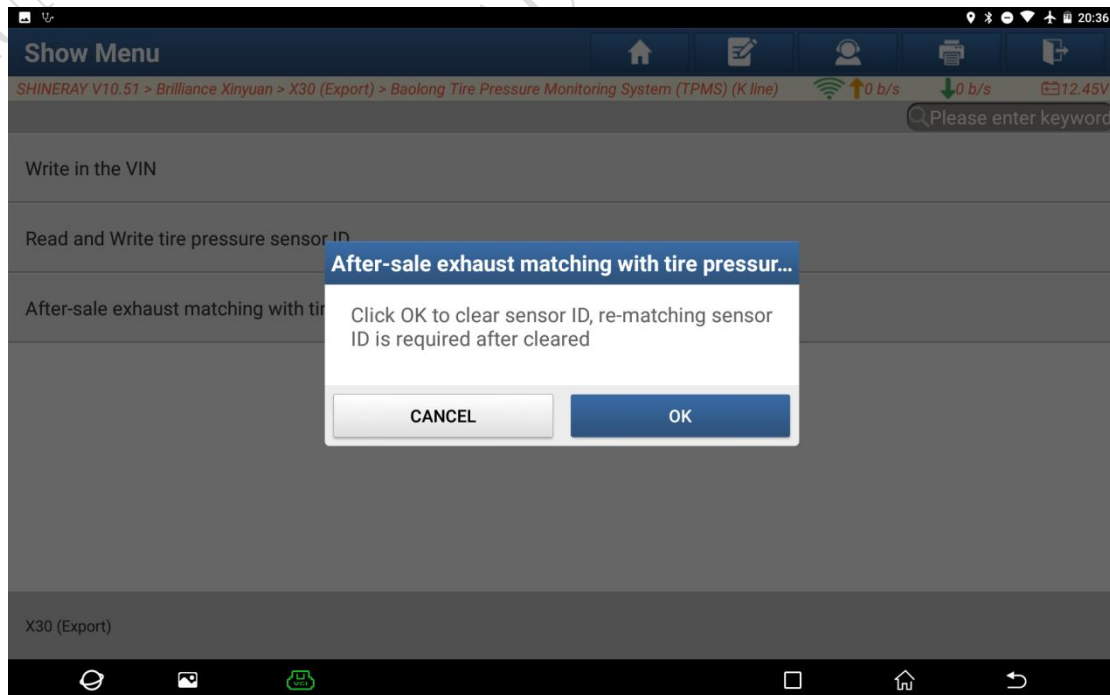

Figure 7
- Click [OK] to clear the sensor ID, as shown in Figure 7.